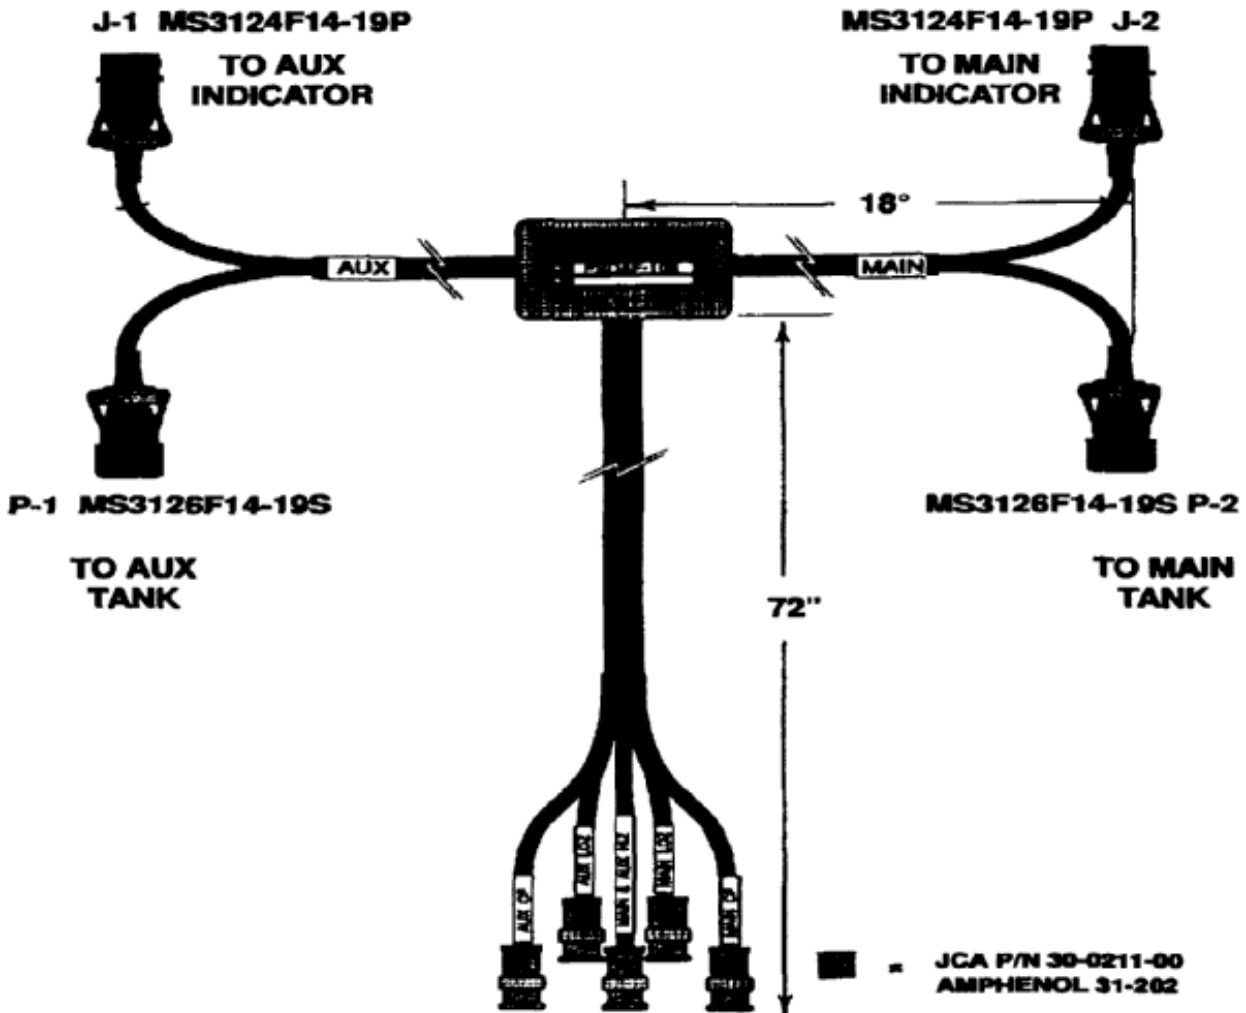

Figure 10. PSDAF-106 "T" cable
8. Connect PSDAF-106 "T" cable lead (Figure 10) marked "MAIN & AUX HIZ" to TU HIZ terminal (J-5) on tester (Figure 1).
| <p>43. Rotate FUNCT switch (S-2) on tester back to SIM TU ONLY.</p> <p>44. Adjust "E" trimmer, if necessary, until gauge pointer reads 0 lb.</p> <p>45. If calibrating TOTAL FUEL function of gauge, proceed to PART II of this procedure.</p> <p>46. In cockpit, pull FUEL QTY IND (No. 1 PDP) and FUEL QTY XFEED CONTROL (No. 1 PDP) circuit breakers.</p> <p>47. Replace gauge in instrument panel. Refer to Task 8-80.5, step 12.</p> | <p>48. At refueling panel, replace gauge in panel. Refer to Task 8-80.5, step 12.</p> <p>49. Disconnect PSDAF-106 "T" cable from aircraft wiring, and from tester (Figure 10).</p> <p>50. Reconnect aircraft wiring harness 300W7 to MAIN tank wall connector 057W2.</p> <p>51. Turn tester OFF. Disconnect ground lead and place in lid of tester.</p> |
10. Connect PSDAF-106 "T" cable "MAIN LOZ" lead (Figure 10) to tester TANK UNITS LOZ terminal (J-4) (Figure 1).
26. Connect PSDAF-106 "T" cable (Figure 10) (J-2) to 300W7 plug disconnected above. DO NOT connect (P-2) to tank connector.
28. Connect PSDAF-106 "T" cable (Figure 10) (J-1) to 300W4 plug disconnected above. DO NOT connect (P-1) to tank connector.
- 58. Disconnect PSDAF-106 "T" cable from 300W7 and 300W4 (Figure 10).